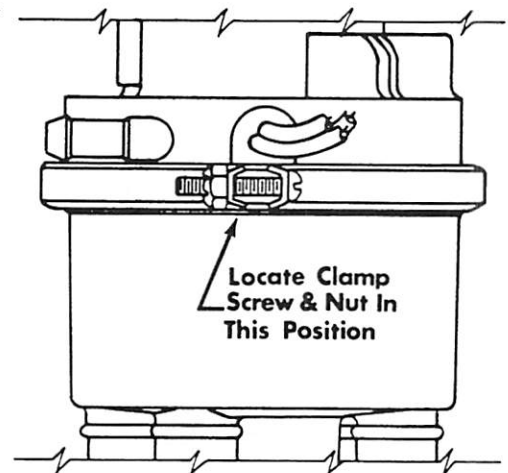

Figure 8. Installing Distributor Cap Assembly
9. Place distributor cap assembly onto distributor housing, observing caution so that brush and spring will not be damaged. Install distributor cap clamp and retainer with screw and nut. Locate clamp screw and nut as shown in Figure 8.